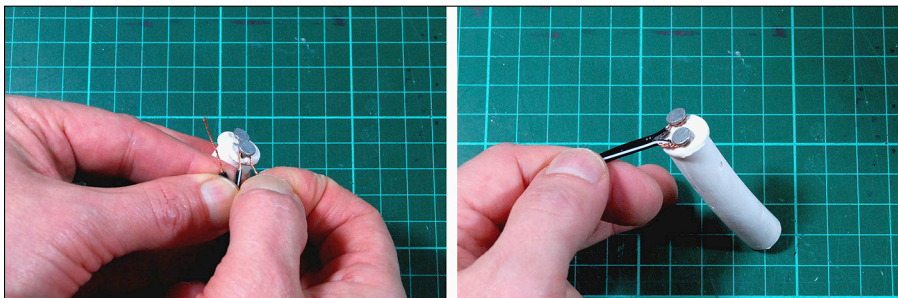

Figure 10-8:
9. If you are using the twist-on method to attach your wires, strip about an inch of insulation off the wires and gently wrap each wire around one nail head, as shown in Figure 10-8.